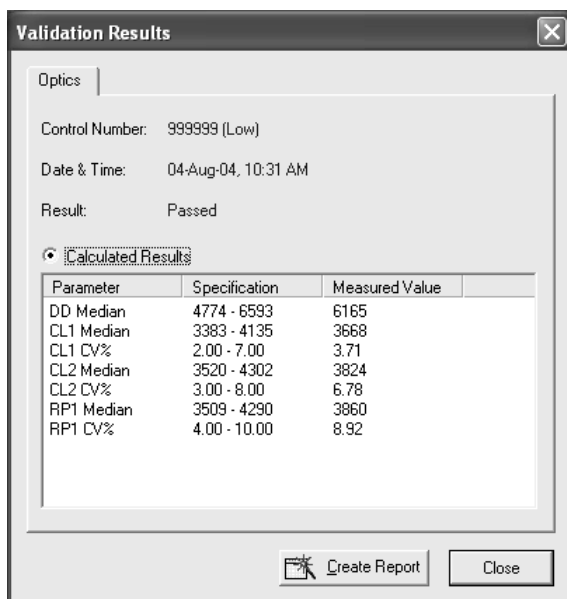

Fig. 5. Optics validation results.
12. When the procedure has been completed, the results will be displayed in a dialog box as shown in Figure 5.